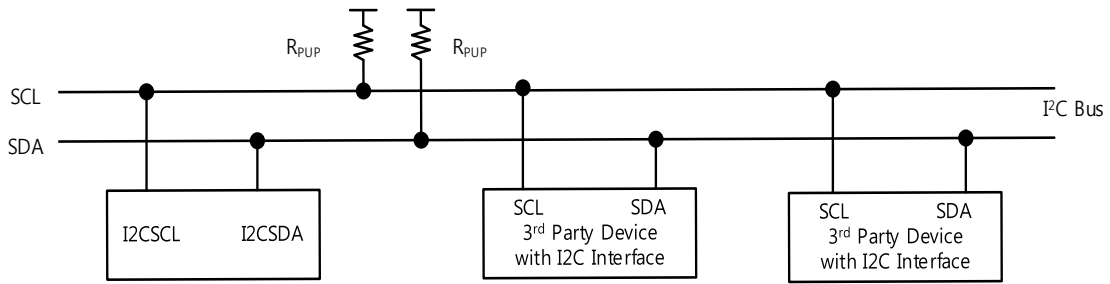

Figure 45. I2C Bus Configuration
*I2C* is comprised of both master and slave functions. For proper operation, the SDA and SCL pins must be configured as open-drain signals. A *I2C* bus configuration is shown in Figure 45.